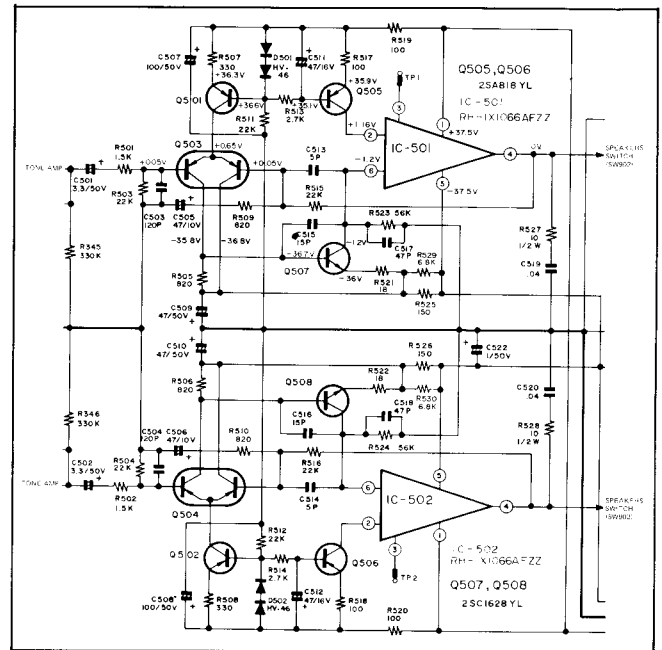

Figure 6
■ MAIN AMPLIFIER CIRCUIT (See Figure 6)